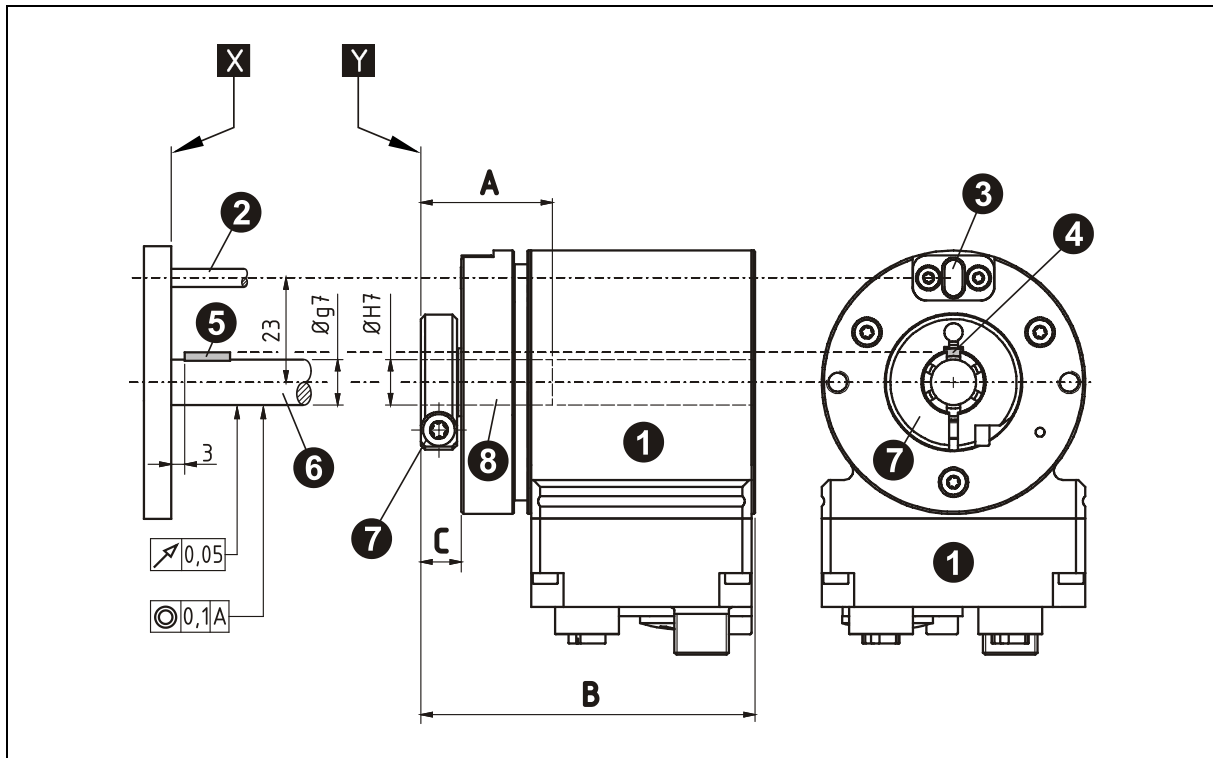

Figure 10: Installation with dowel pin and groove insert, illustration showing the principle
- A dowel pin is used to fix the measuring system on the drive end, see Figure 10.
- The dowel pin must extend at least 4 mm into the groove insert, max. 5.5 mm. The distance from the measuring system flange **Y** to the customer-provided device plane **X** must be > 1.5 mm, see Figure 10.